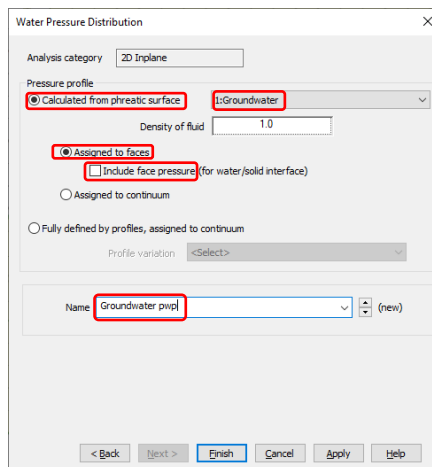

Figure 36: Definition of pressure attribute
- Select **Attributes > Loading...** then the radio button **Distributed Loads** followed by the radio button **Water Pressure Distribution** and then click on **Next**. Click on the radio button **Calculated from phreatic surface** and select **Groundwater** from the dropdown. Click on the radio button **Assigned to faces** and uncheck the **Include face pressure** tickbox. Enter a name of **Groundwater pwp** then click **Apply** (figure 36).